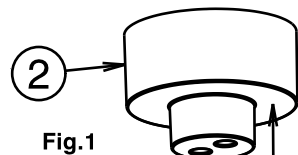

Fig.1
1c) Mark the centre position of the desired location for the Mixer then drill a hole $\varnothing 60 \pm 2$ mm through the flooring base materials. Install the pipework for hot & cold water supplies in accordance with AS/NZS 3500.1. Slide the installation template (2) over the vertical section of each pipe (1) protruding from the floor and position the bottom face (see Fig. 1 above) of the template on the top surface of the floor. Crimp or cap the end of each pipe taking care that heat does not damage the installation template (2). Secure the pipework under the floor using suitable brackets, clips or hangers. Care must be taken that undue strain is not applied to the vertical pipe legs which may influence the pipe centres when the installation template is removed after floor trades are complete.